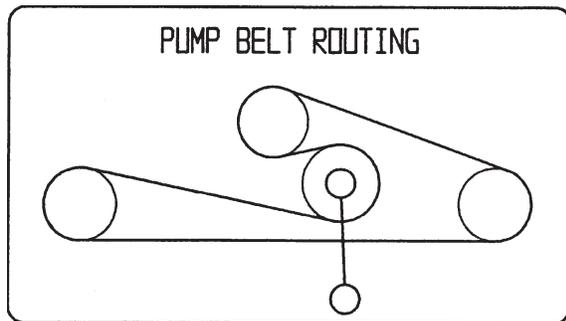

Figure 55
1. Pull spring loaded idler down and remove traction belt from the engine and hydro pump pulleys (Fig. 55). Remove belt between pulleys.
2. Install new belt around engine and hydro pump pulleys (Fig. 55).
3. Pull spring loaded idler down and align below traction belt. Release pressure on spring loaded idler (Fig. 55).